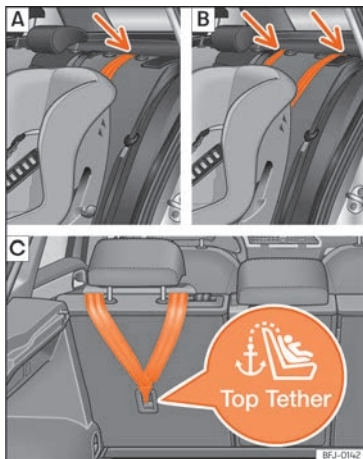
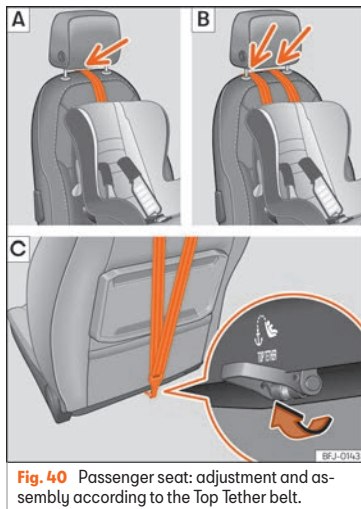

Fig. 39 Second row outermost seats: adjustment and assembly according to the Top Tether belt.
Fig. 40 Passenger seat: adjustment and assembly according to the Top Tether belt.
The Top Tether rings are located on the rear part of the backrests of the rear seats (behind the seat backrest or in the boot) » **Fig. 40**. For the front passenger seat, the ring is below the backrest » **Fig. 40**.
child seat is heard to engage securely. If the child seat is equipped with Top Tether anchor points, secure it to the correspondent ring » » Fig. 39, » » Fig. 40. Observe the manufacturer's instructions.
- Place the belt under the head restraint of the back seat »» Fig. 39 [A] or [B], »» Fig. 40 [A] or [B] (depending on the instructions of the chair itself, lift or remove the head restraint if necessary).
- Slide the strap and secure it properly with the anchorage of the backrest »» Fig. 39 [C], »» Fig. 40 [C].